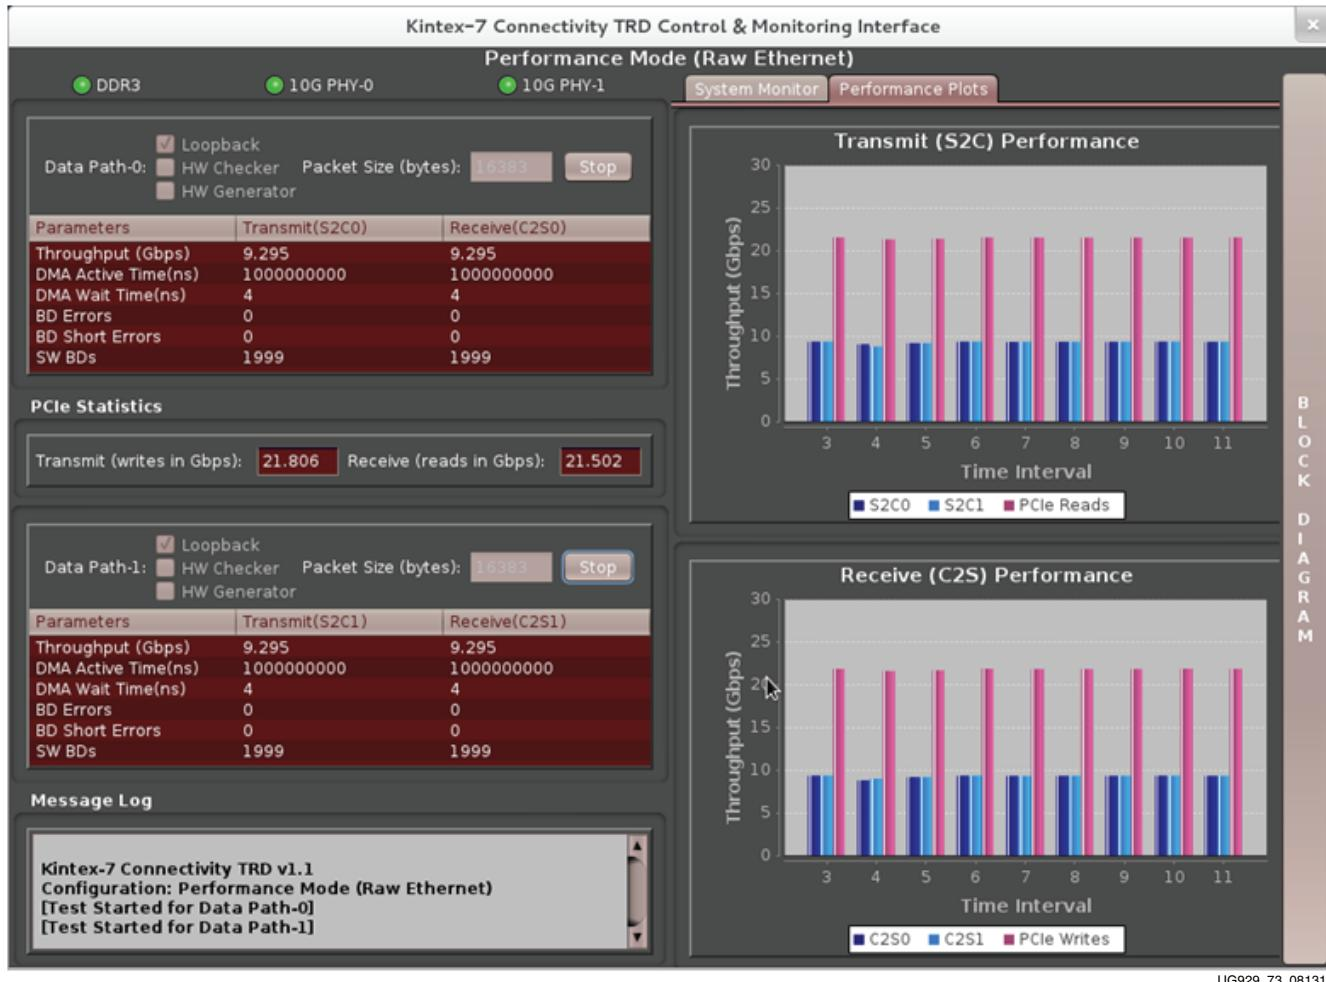

Figure 2-13: Raw Ethernet Driver Performance Plots
11. Click **Start** on both Data Path-0 and Data Path-1. Navigate to the Performance Plots tab to see performance on system-to-card and card-to-system (see Figure 2-13).